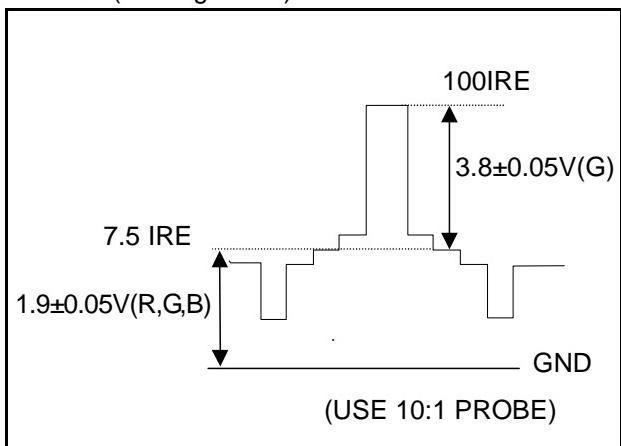

Figure 55. NTSC Composite Adjustment
2. Adjust B01 data (sub bright) to obtain $1.9 \pm 0.05V$ at TPX5. (see Figure 55)
3. Adjust B00 data (sub contrast) to obtain $3.8 \pm 0.05V$ at TPX5 (see Figure 55)
4. Adjust C0D data (blooming DC) to obtain $3.8 \pm 0.05V$ at TPX5 (see Figure 55)
5. Adjust C0 data (R-cut off) to obtain $1.9 \pm 0.05V$ at TPX4 (see Figure 55)
6. Adjust C2 data (B-cut off) to obtain $1.9 \pm 0.05V$ at TPX6 (see Figure 55)